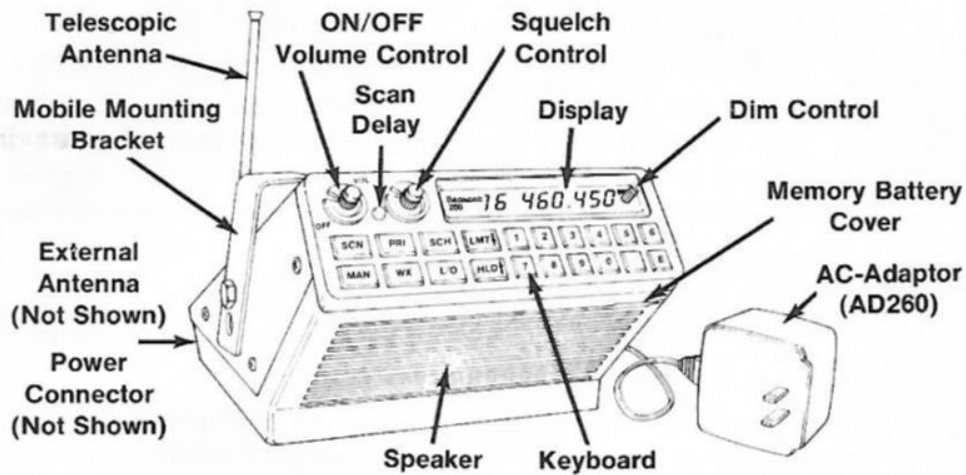

FIGURE 9
1. **On-Off-Volume:** Turns the receiver power ON or OFF and varies the audio output level (See Figure 9).
2. **Squelch:** Eliminates the annoying “rushing” sound that is present between transmissions when no signal is being sent. Proper setting of this control keeps the receiver “quiet” and allows scanning or searching until a signal is received (see Figure 9).
3. **Dim Control Knob:** The brightness level of the digital display and the electro-luminescent keyboard is controlled by the dim control knob. Turning the knob clockwise increases the brightness level (see Fig. 9).